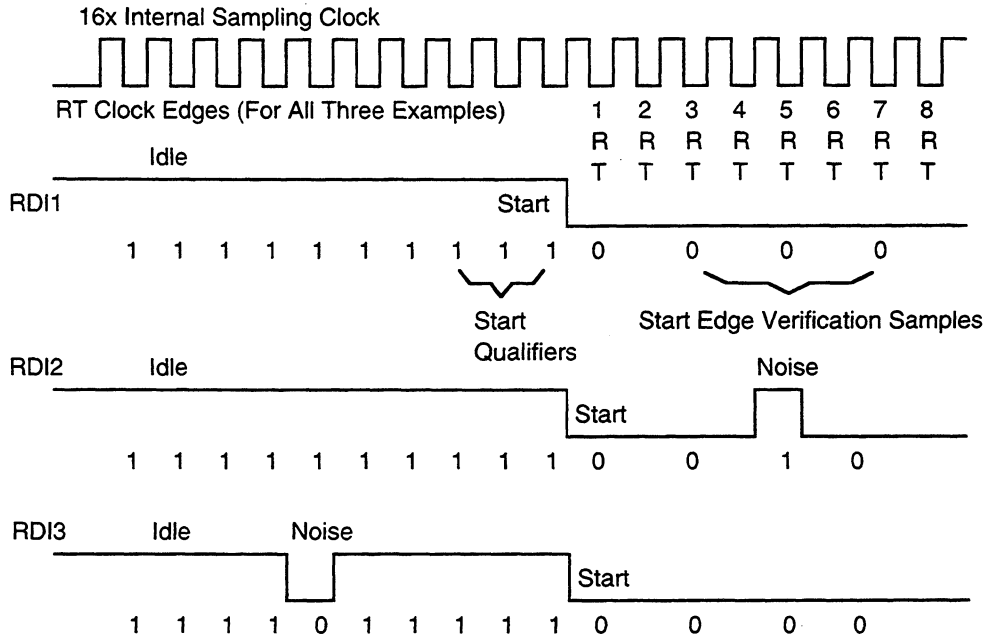

FIG. 5-2 Example of Start-Bit Sampling Technique
If there has been a framing error (FE) without detection of a break (10 zeros for a 8-bit format or 11 zeros for a 9-bit format), the circuit continues to operate as if there actually were a stop bit, and the start edge will be placed artificially. The last bit received in the data shift register is inverted to a logic one, and the three logic-one start qualifiers (shown in Fig. 5-2) are forced into the sample shift register during the interval when detection of a start bit is anticipated (see Fig. 5-4); therefore, the start bit will be accepted no sooner than it is anticipated.